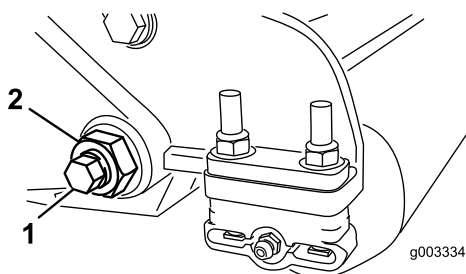
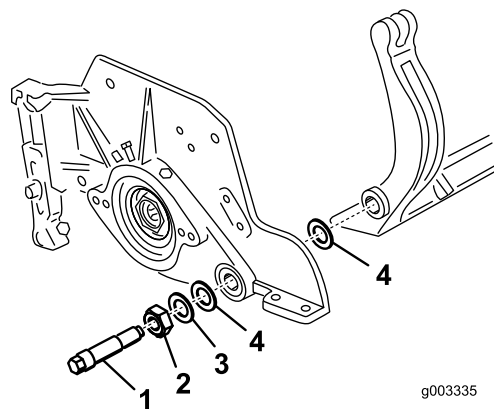

Figure 30
Figure 31
- On each side of the machine, loosen the lock nut securing the bedbar bolt (Figure 30).
- Remove each bedbar bolt allowing bedbar to be pulled downward and removed from machine bolt (Figure 30). Account for 2 nylon and 1 stamped steel washers on each end of bedbar (Figure 31).
- Secure bedbar to each side plate with bedbar bolts (nuts on bolts) and 6 washers. A nylon washer is to be positioned on each side of side plate boss. Place a steel washer outside each of the nylon washers (Figure 31). Torque bedbar bolts to 27-33 ft.-lb (37-45 N-m). Tighten locknuts until the outside steel washer stops rotating and end play is removed but do not overtighten or deflect side plates. Washers on inside may have a gap.